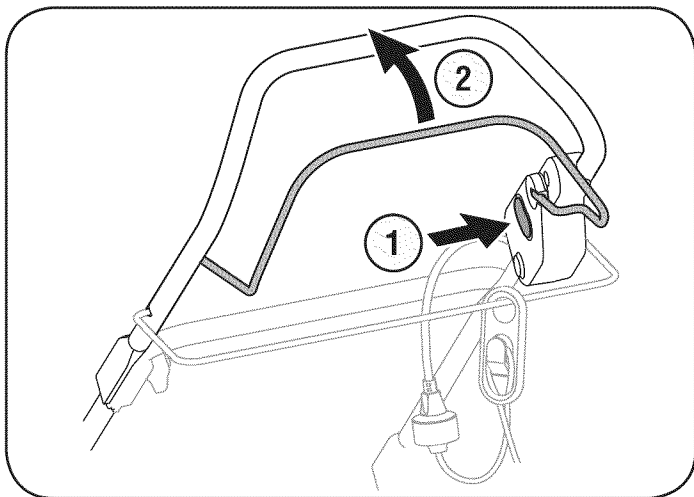

Figure 11
3. Depress the (red) starter button and hold it in. See Figure 11.
4. While holding the starter button in, pivot the motor/blade control handle upward against the upper handle to start the motor and engage the blade. See Figure 11.